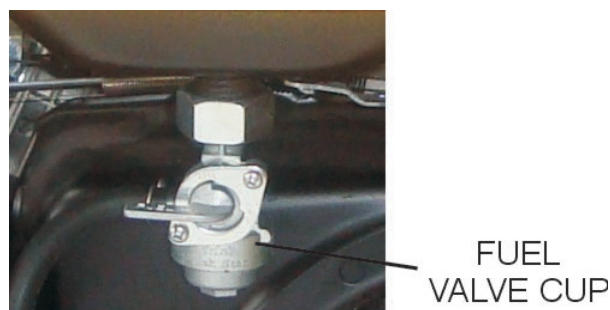

**Figure 23- Removing the air cleaner casing.**
1. Unhinge the clasps at the top and bottom of the air cleaner cover (see figure 23).